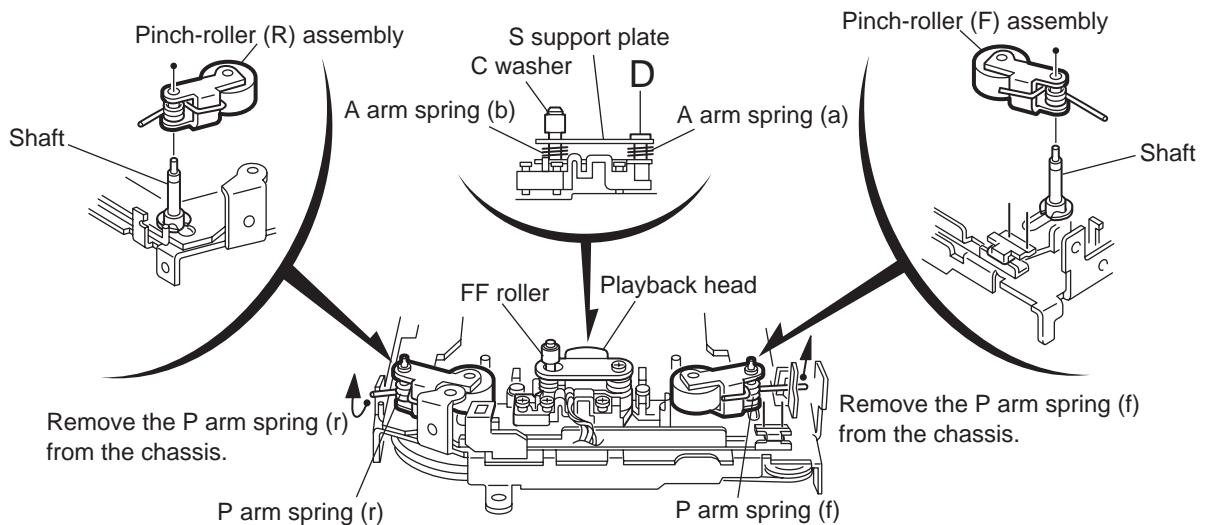

Fig.2
3.2.4 Removing the playback head (See Fig.2)
3.2.5 Removing the pinch-roller (R) and (F) assembly (See Fig.2)